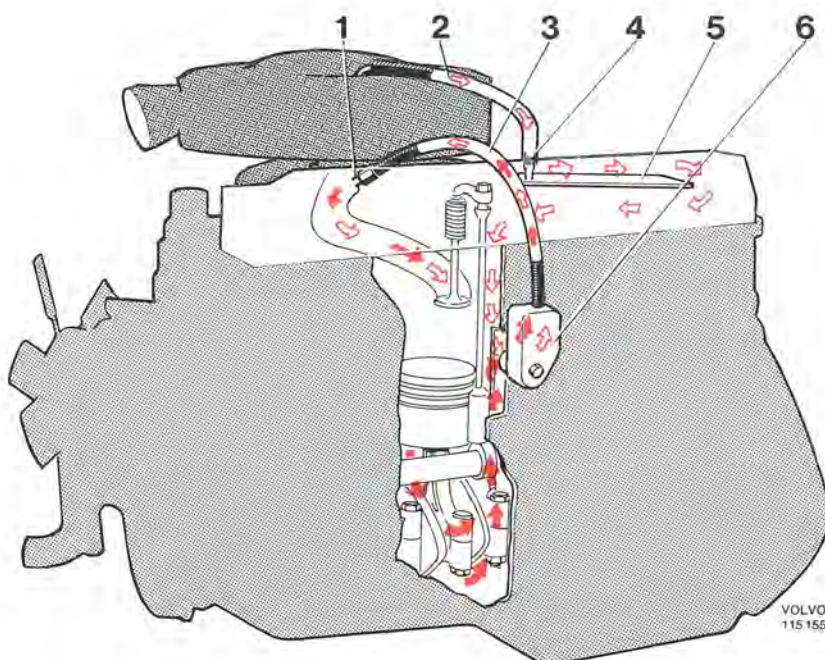

Fig. 2-9. Positive crankcase ventilation
Fresh air is supplied to the rocker arm casing through the air cleaner via the hose (2). A plate in the rocker arm casing (see Fig. 2-9) ensures that the fresh air circulates sufficiently in order to mix with the crankcase gases.